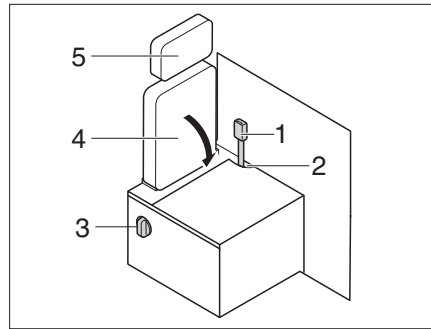

Fig. 220 Driving - living conversion
- Remove the headrest (Fig. 220,5) (see chapter 5.7).
- Insert the seat belt buckle (Fig. 220,1) into the opening (Fig. 220,2).
- Engage the lever (Fig. 220,3) and fold down the backrest (Fig. 220,4).
▷ Repeat the process in reverse order to convert the space back from the living to driving setup. Make sure that the seat belt buckle is inserted through the opening (Fig. 220,2).